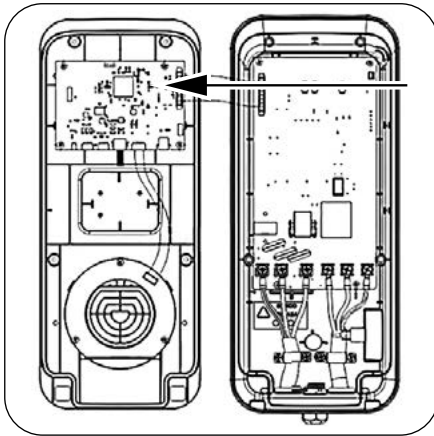
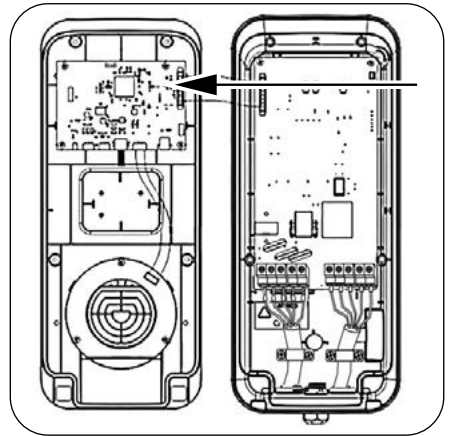

Figure 36
Figure 37
6. After having carried out the wiring of the post it is necessary to set the micro switches present in the single-phase (Figure 36) or three-phase (Figure 37) board as shown in the following table: